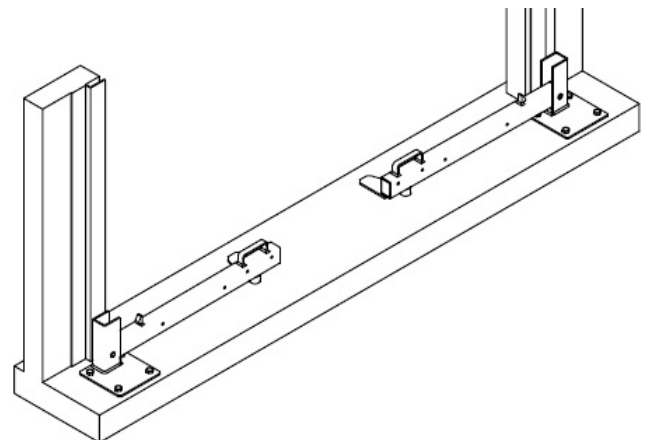

Figure 10
12. Lower the other Door SHIELD down to the horizontal position. See Figure 10.